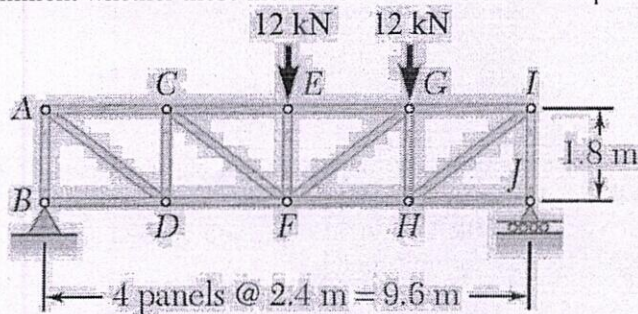

Fig. 5b
- 5b. Refer to Fig. 5b. Determine the member forces in the members, CD and DF of the truss and comment whether these members are in tension or compression.